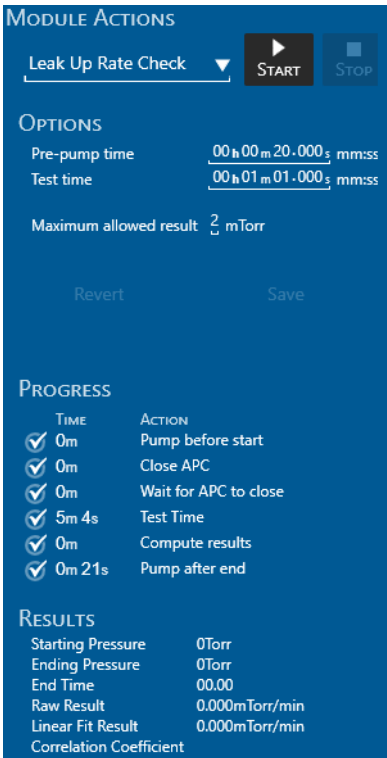

Figure 4-18 Leak up rate check
- a) In the Module Actions panel (see Figure 4-18) select the **Leak Up Rate Check** option.